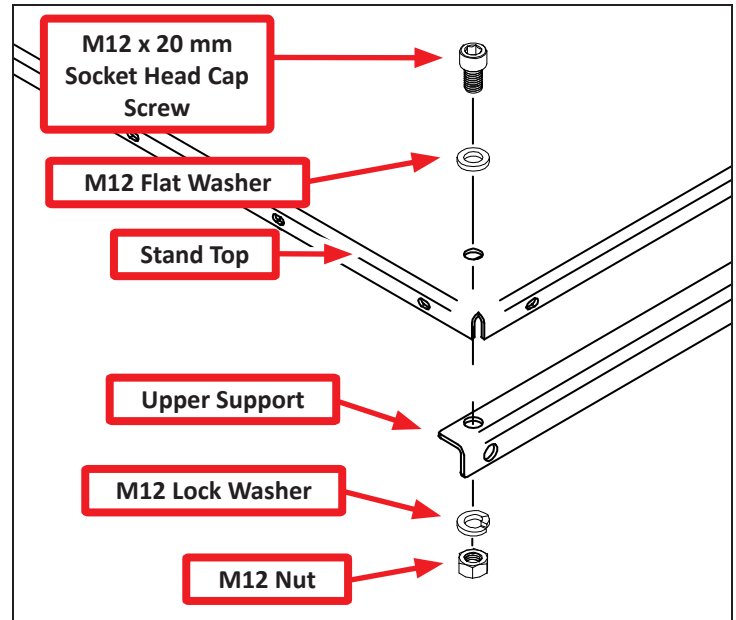

Figure 8
- Using one M12 x 20 mm Socket Head Cap Screw and one M12 Flat Washer, secure end of Upper Support to corner of stand top (see **Figure 8**); repeat for all four ends of Upper Support.
- Affix each M12 x 20 mm Socket Head Cap Screw and M12 Flat Washer assembly on Upper Support with one M12 Lock Washer and one M12 Nut as shown in **Figure 8**.